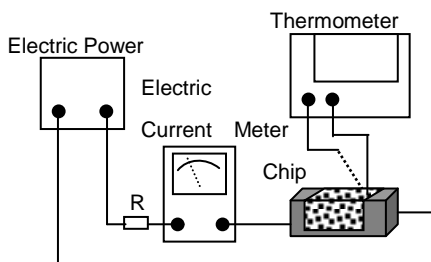

Fig. 5.3.3-1
- d. Definition of Rated Current (Ir): Ir is direct electric current as chip surface temperature rose just 40°C against chip initial surface temperature(Ta) (see Fig. 5.3.3-2).